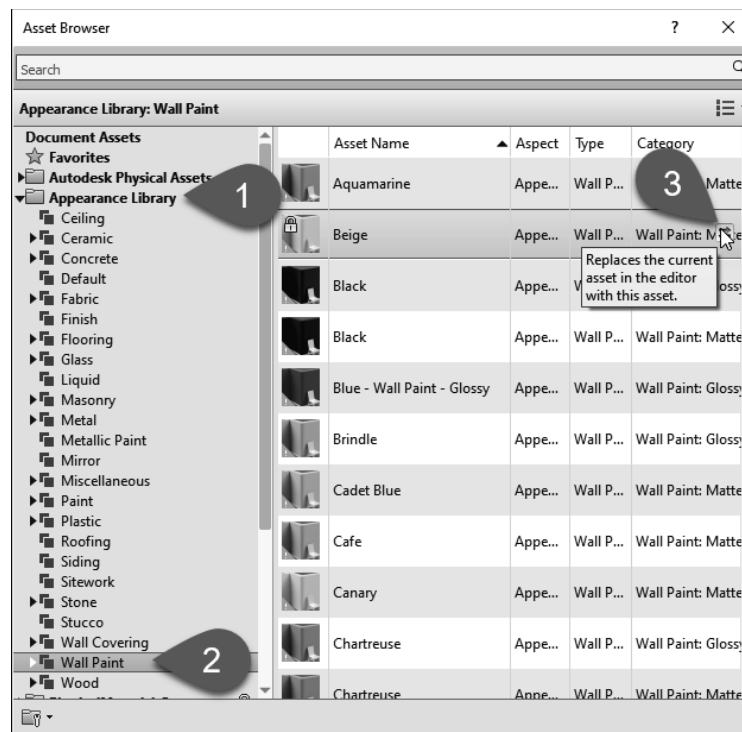

FIGURE 4-3.14 Asset browser, appearance library
The *Asset Browser* has now opened (Figure 4-3.14). Here you need to select a *Wall Paint* asset and overwrite the *Generic* asset in the law office model.
43. In the *Appearance Library* list on the left, select **Wall Paint** (Figure 4-3.14).